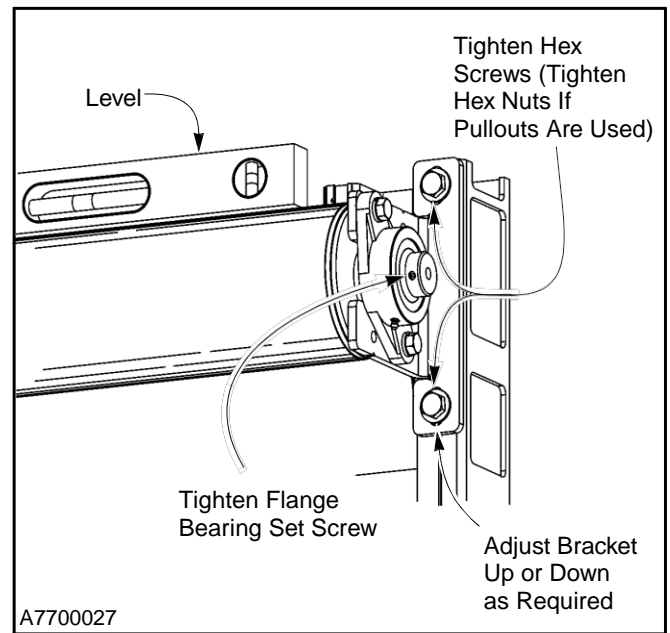
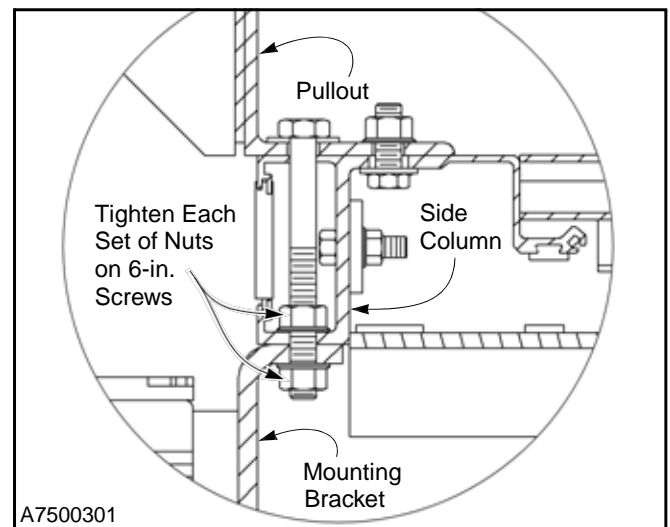

Figure 20
Figure 21
Tighten the hardware securing the motor and the flange bearing mounting brackets to the side columns. Then tighten the set screw to lock the flange bearing to the drum shaft. (See Figure 20 and Figure 21.)
**For a door with pullouts, verify that the two hex nuts threaded on each 6-in. screw are tight against their associated side column and mounting bracket. Failure to tighten all eight nuts could result in damage to the side columns. (See Figure 21.)**